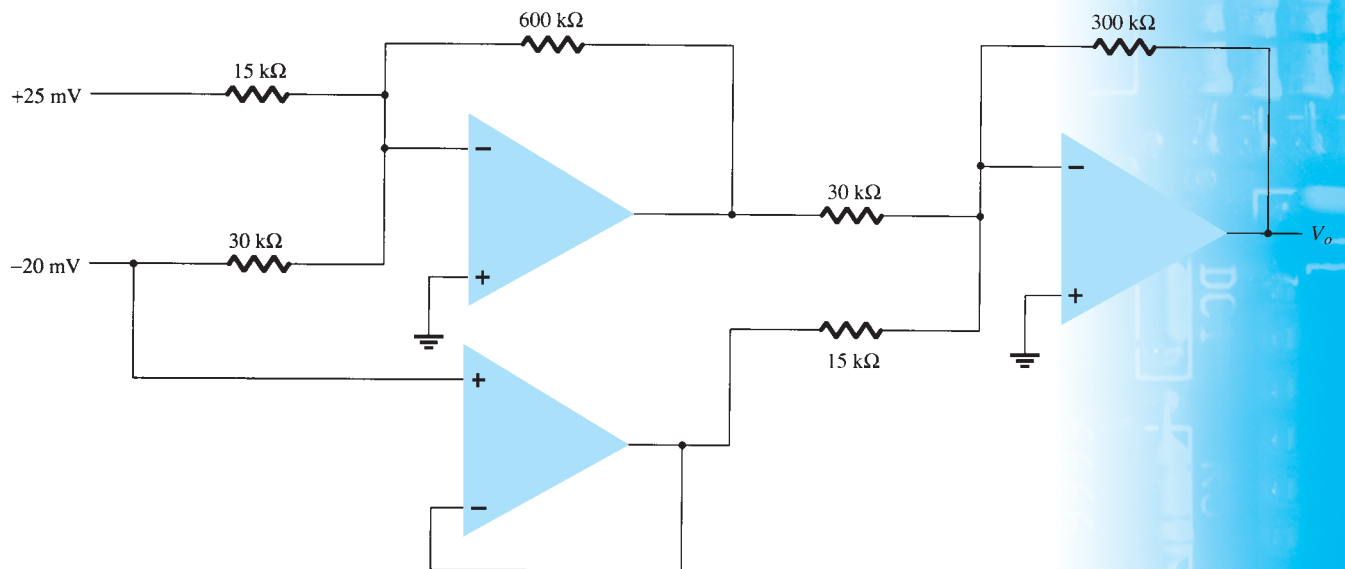

FIG. 10.74
- in the circuit of Fig. 10.74.
- *30. Use Schematic Capture or Multisim to calculate the output voltage in the circuit of Fig. 10.74.